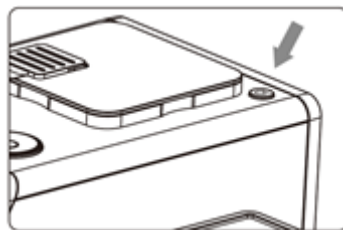

Fig. 1
Connect the machine to the mains and press the button (9) located to the right of the bean container (Fig. 1).